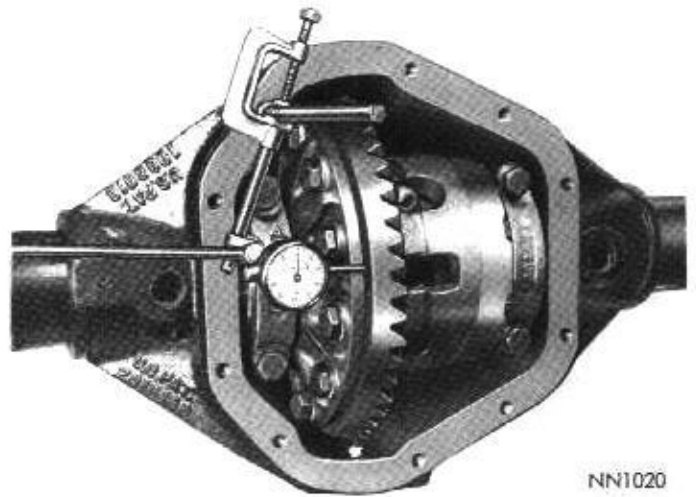

Fig. 14—Measuring Drive Gear Runout
(1) Position carrier and tube assembly in a suitable holding device; such as the jaws of a vise with the carrier cover facing upward. Thoroughly clean the outer area of carrier and tubes with a suitable cleaning solvent and blow dry with compressed air.
(2) Loosen and remove cover screws and remove carrier cover. Tilt assembly and drain lubricant into a container.
(3) Using a suitable cleaning solvent wash and clean differential, bearings, ring gear and pinion and internal surfaces and blow dry with compressed air.
(4) In preparing to measure drive gear back face runout (provided no side play was found) mount a dial indicator Tool C-3339 on pilot stud (Fig. 14), and load the indicator stem slightly when plunger is at right angles to back face of drive gear.